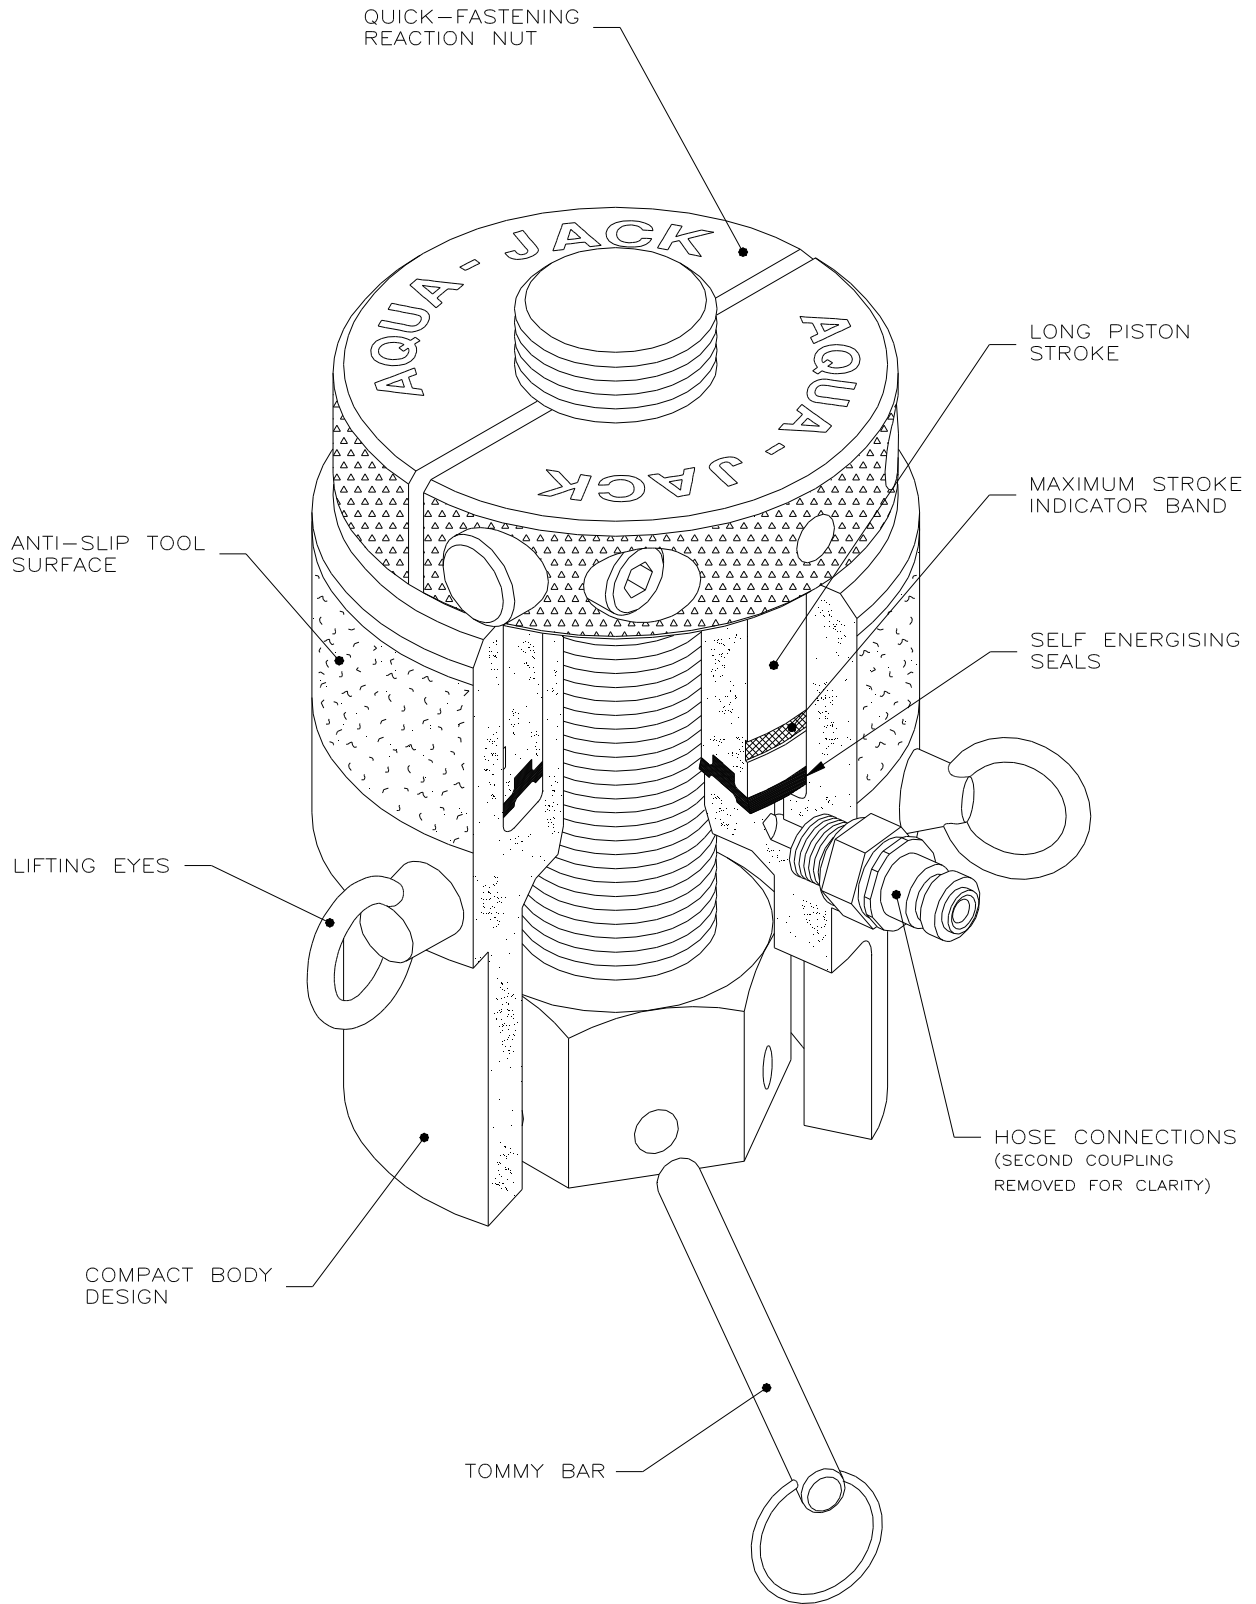

FIG 1 : THE AQUA-JACK SUBSEA BOLT TENSIONER
| 1.2 AQUA-JACK BOLT TENSIONER (FIG 1) | 4 |
1.2 AQUA-JACK BOLT TENSIONER (FIG 1)